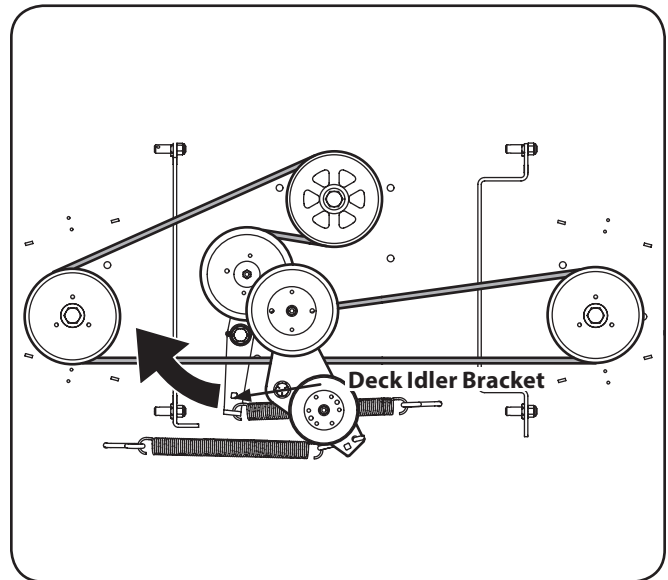

Figure 7-7
4. Using a ½" drive insert the male end into the ½" square opening in the deck idler assembly and rotate the idler clockwise on the 60" and 54" decks and counter-clockwise on the 48" deck. See Figure 7-7. While holding the deck idler, loosen the deck belt from the pulley and slide the belt away from the pulley.
5. Route the new belt as shown in Figure 7-7. Then reinstall the deck and PTO belt as instructed on page 34.